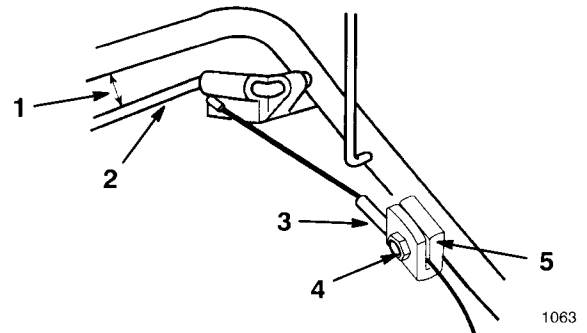

Figure 33
1. Loosen the nut on the cable support (Fig. 33).
2. Hold the self-propel bail 1 to 1½ in. (25 to 38 mm) from the handle (Fig. 33).